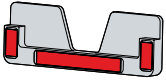

Fig. 19: CP32xx\_adhesive strip RFID card
4. Press the holder with the adhesive strips (see Fig. 19) onto the front foil.